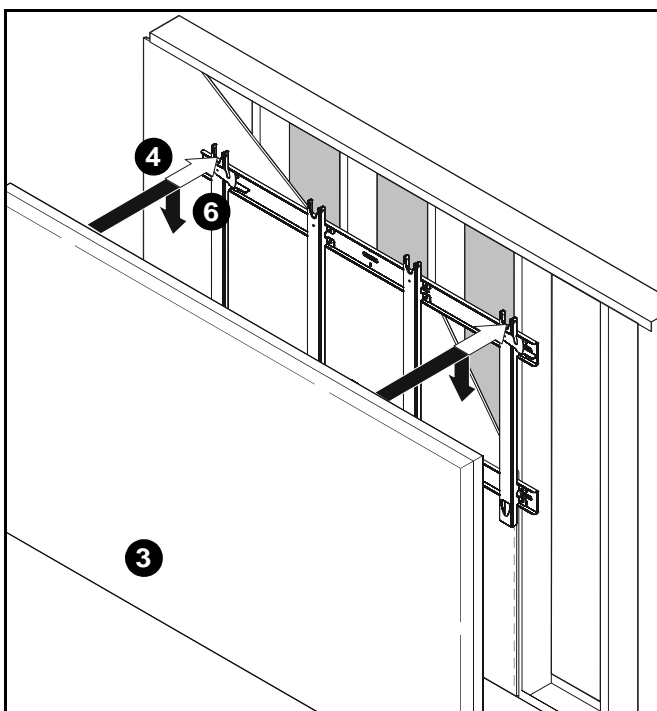

Figure 7
4. Align mounting buttons on display with teardrop mounting holes in mount. (See Figure 7)
5. Move display forward until recessed area of mounting buttons is positioned over lower area of teardrop mounting holes. (See Figure 7)
6. Lower display until recess area of mounting buttons is seated in lower area of teardrop mounting holes. (See Figure 7)